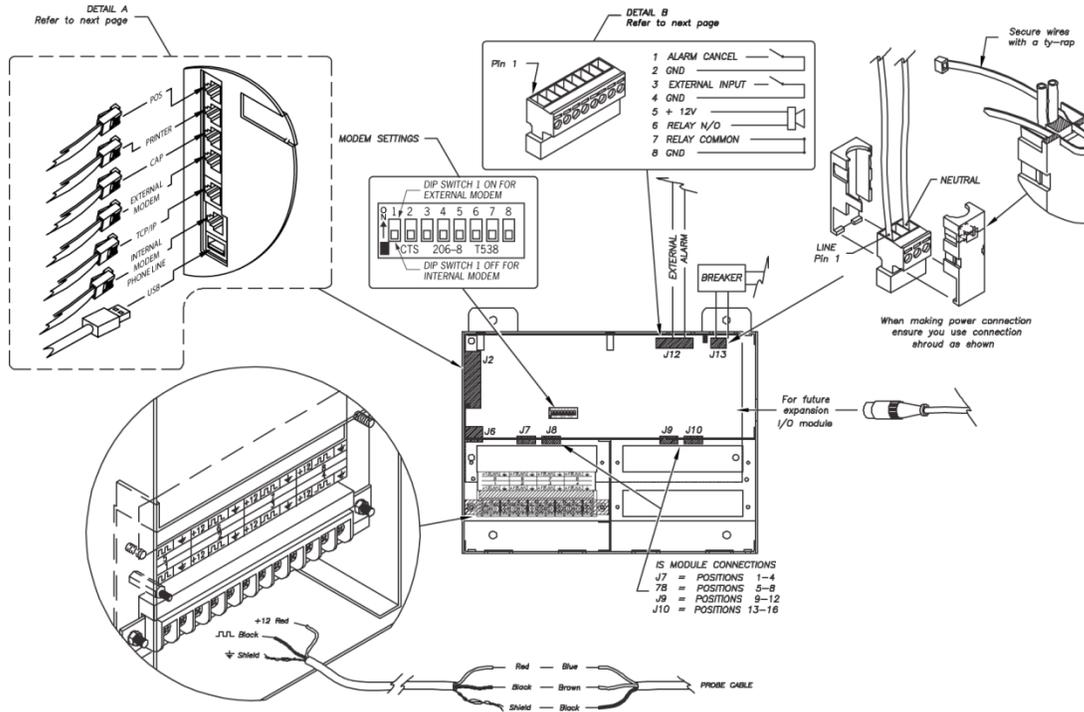

Figure 14-1 Connecting External Devices to the Controller
Figure 14-1 below shows how to connect all possible devices and accessories to your SiteSentinel® iTouch™ Controller. Not all applications use all connections shown in the drawing.
3. Attach 9-pin Dsub connector to the printer and the other end to the Controllers RJ-45 connector – see Figure 14-1 on page 76.